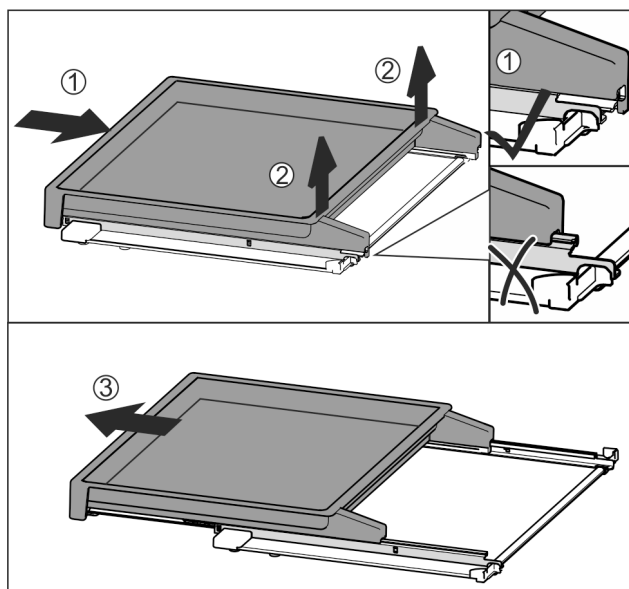

Fig. 154
- Slide the pull-out board all the way in Fig. 154 (1).
- Release the clips at the back Fig. 154 (2).
- Remove the pull-out board from the front Fig. 154 (3).